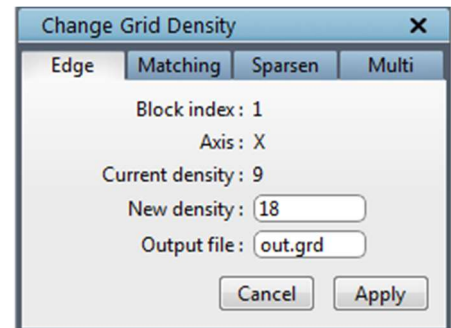

Figure 5.26: Density dialog box
**Density** button has four tabs, each performing different operations. Once you click on the Density button, the Change Grid Density dialog box opens, as shown in Figure 5.26. By default, the tab is set to **Edge**. The density of a particular edge group can be changed using the **Edge** tab. Open the dialog box and click on the desired edge whose density has to be changed. The selected block index will be updated in the dialog box. Enter the new density for the selected edge and click on *Apply* to see the changes. When the *Apply* button is clicked, a new grid file is created with the name specified in the *Output file* input field and automatically loaded into the UI. Once the new grid is loaded, the old grid will be switched off, which can be switched on again from the **Grid Toggling** section. The density of an edge of a block can also be changed by using the **Change density** option from right-click menu. Selecting the **Change density** option from the right-click menu of a grid block edge will open the same dialog box as shown in Figure 5.26.